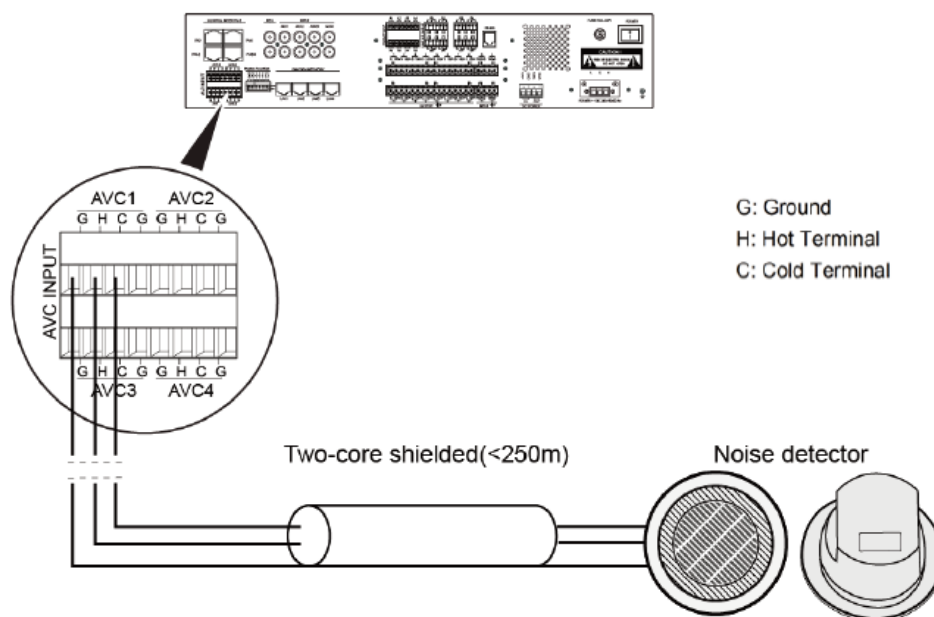

Figure 25 Schematic Diagram of the Noise Detector Connection
3. Install the noise detector on the other end of the AVC cable, as shown in Figure 25.